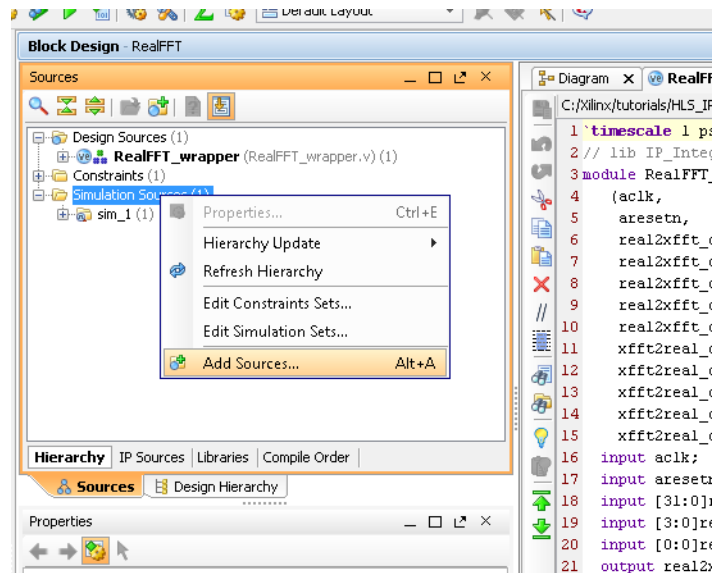

Figure 9-24: Adding Simulation Sources
1. Right-click **Simulation Sources** in the Sources tab of the Project Manager pane (Figure 9-24).